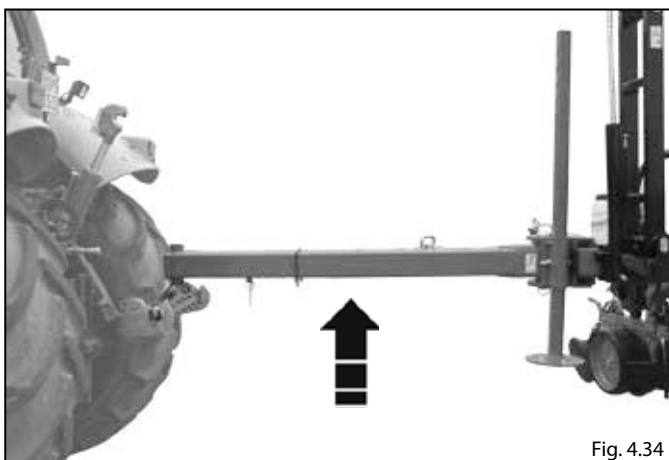

Fig. 4.34
- Lift the tractor hoist so as to bring the sowing machine into a horizontal position (Fig.4.34).